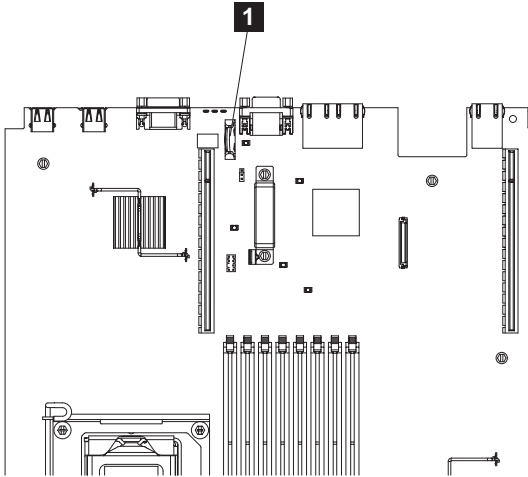

Figure 141. Location of the SAN Volume Controller 2145-CF8 CMOS battery holder
2. Locate the battery on the system board. Figure 141 shows the location ( **1** ) of the battery on the system board.